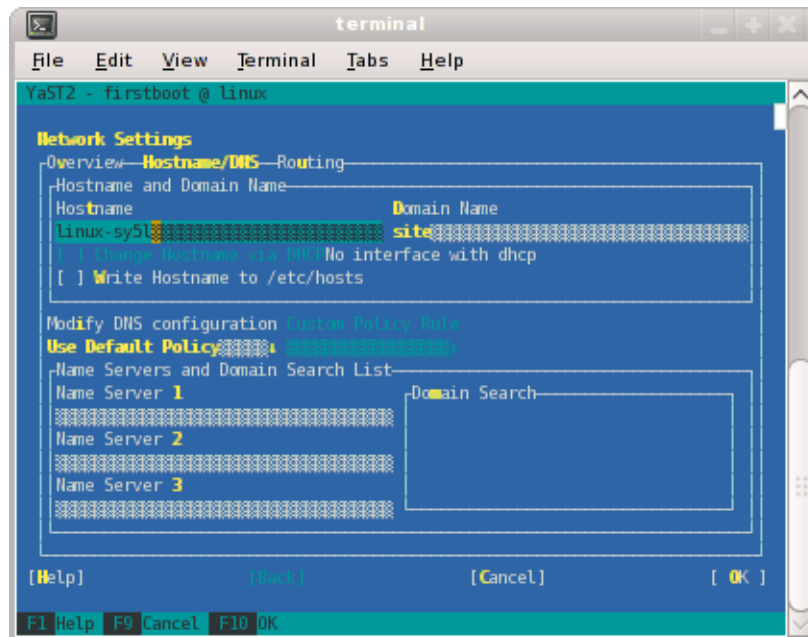

Figure 1-14 Network Settings Screen
9. At this point, you are back at the **Network Settings** screen as shown in Figure 1-14 on page 21. At this time, select **Hostname/DNS**. In this screen, you should enter your house/public network hostname and fully qualified domain names. In addition, any name servers for your house/public network should be supplied. Please select (ensure an x is in the box) for **Write hostname to /etc/hosts**. Do not select **OK** yet.